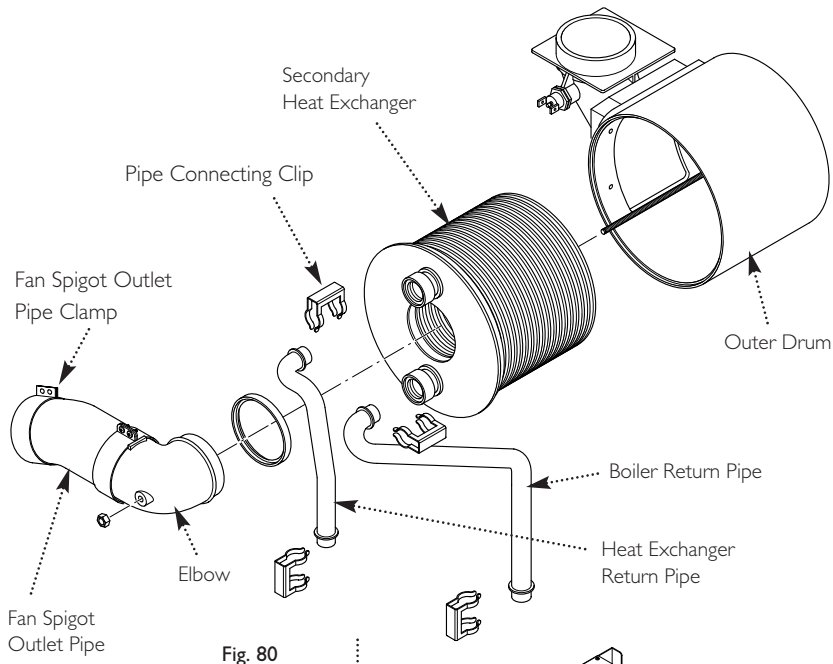

Fig. 80
14.23 Secondary Heat Exchanger (Fig. 80)